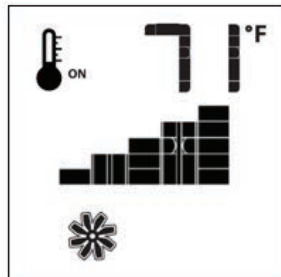

Fig. 72
If the Heater is equipped with a hot air circulating fan, the speed of the fan can be controlled by the Proflame2 System. The fan speed can be adjusted through six (6) speeds. To activate this function use the Mode Key (Fig. 59) to index to the fan control icon (Fig. 71). Use the Up/Down Arrow Keys (Fig. 59) to turn on, off or adjust the fan speed (Fig. 72). A single “beep” will confirm reception of the command.